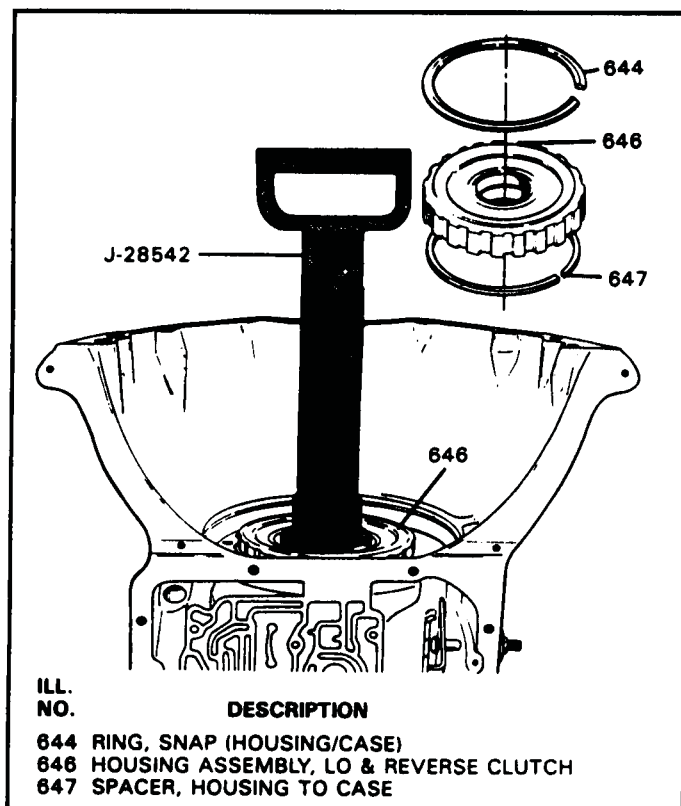

Figure 60
9. Remove the snap ring from case that retains the Lo/Reverse clutch housing (See Figure 60).
10. Remove the Lo/Reverse clutch housing using J-28542 tool as shown in Figure 60.
11. Remove the housing to case spacer (647), as shown in Figure 60.